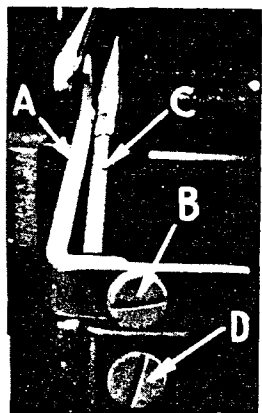

Fig. 7
Set rear needle guard (A, Fig. 7) as high as possible, without interfering with either lower looper or spreader or movement of lower knife holder, but still in position to deflect needle forward .002-.004 inch (.051-.102 mm). Screw (B) is used to set rear needle guard. Make sure there is no interference between rear needle guard and lower looper or spreader.
Assemble front needle guard (C, Fig. 7). When lower looper is springing needle off rear guard, set front needle guard as close as possible to needle without touching. Screw (D) is used to adjust and set front needle guard. After this setting, make sure there is no interference between the needle guards and differential feed dog.